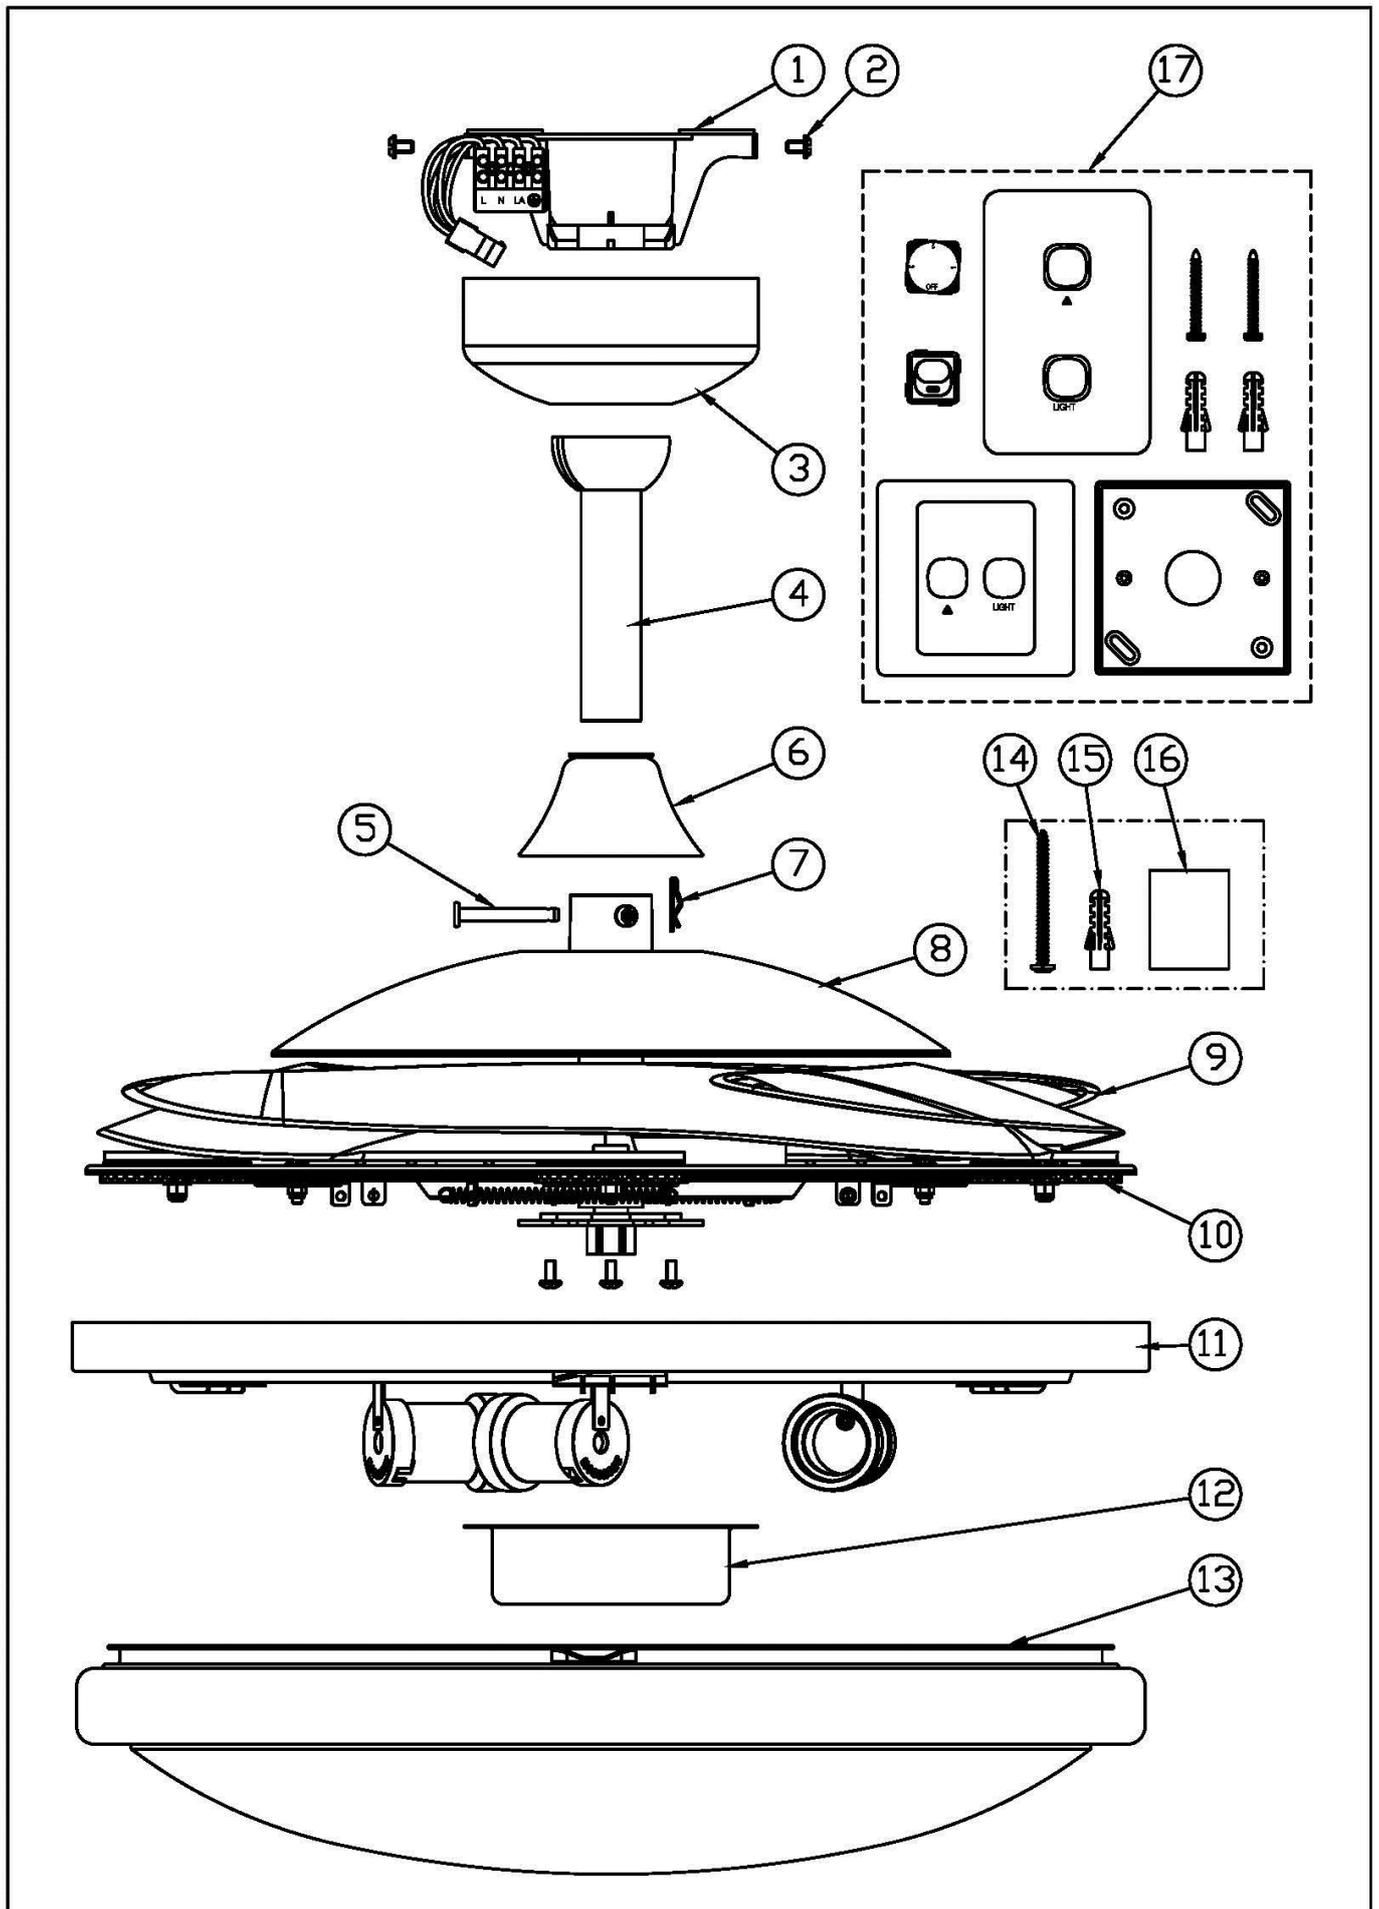

Figure 1.
Unpack the fan and carefully identify the parts. Please refer to FIGURE 1.
- 1) Remove ceiling canopy (No. 3 – Fig. 1) by loosening the 2 screws with slots.